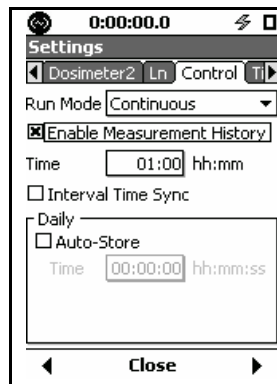

FIGURE 10-1 Measurement History Setup
- Step 5** Navigate down to the **Enable Measurement History** option and press **ENTER** to select the check box, as shown in FIGURE 10-1.